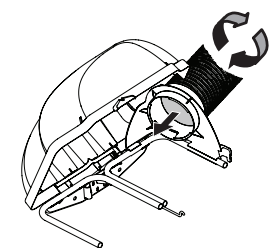

Figure 20
- Thread the upper end of the hose securely into the upper chute support. There are two tabs on the lower inside part of the upper chute support to allow for secure threading. See Figure 20.